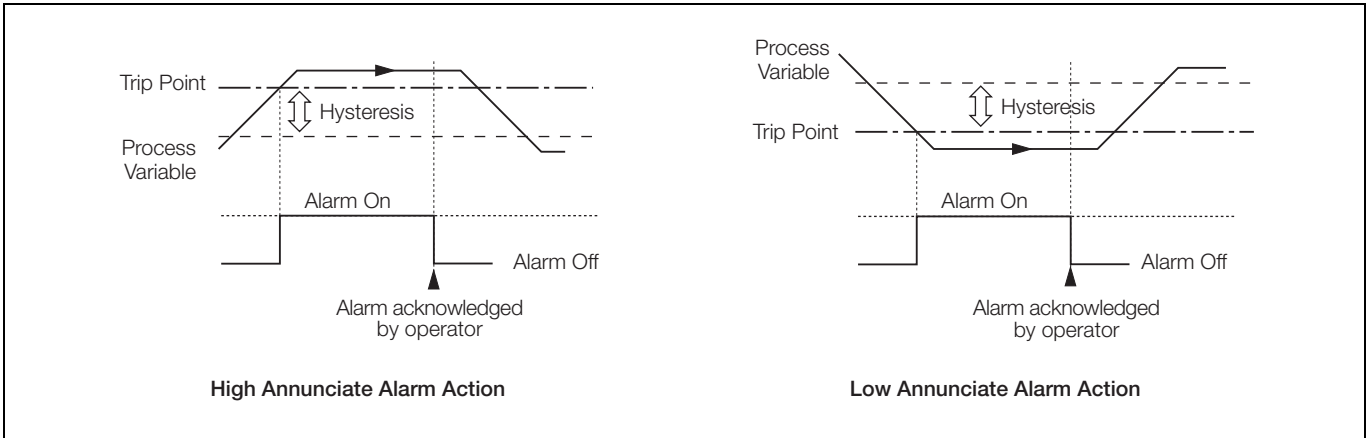

Fig. 4.13 High/Low Annunciate Alarms
- High/Low latch – see Fig. 4.13, page 78